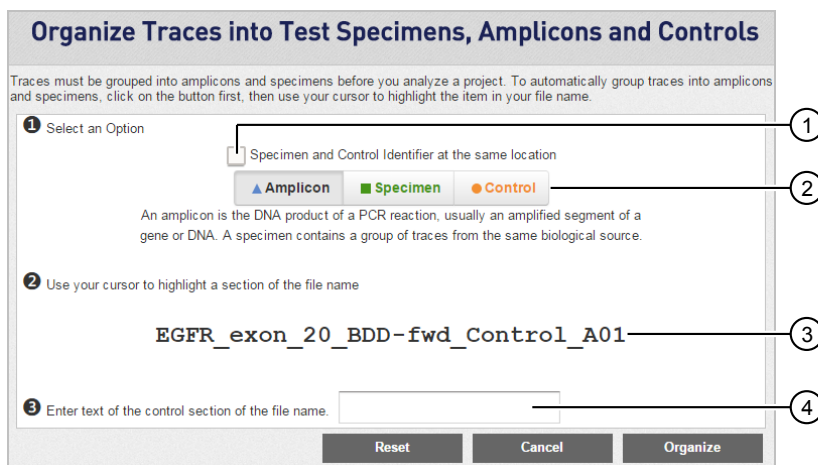

Figure 2 Organize dialog box
- ① Amplicon – If you specified a reference in the Reference screen, the amplicon name from the reference file is displayed. Click  to manually add an amplicon. Double-click an amplicon to rename it.
- ② Delete, Add, Filter
- ③ Controls
- ④ Traces that have been grouped into the selected amplicon folder
- ⑤ Traces that have not been grouped into an amplicon folder
- ⑥ List view, Grid view, Filter
- ⑦ Organize – Click to use the automatic organize function (see Figure 2). Traces that do not follow the naming convention of the first selected trace in the list are not grouped. You can drag traces to manually group them.
- ⑧ Specimen name – Click  to manually add a specimen. Double-click a specimen to rename it.